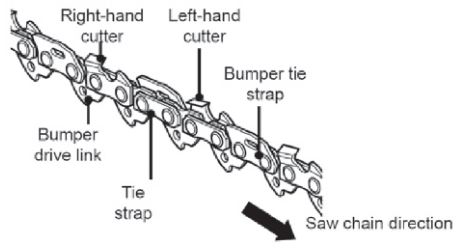

Fig. 23a
2). The height difference between the tooth and the ridge is the cutting depth. When sharpening the saw chain (D6) you have to consider the following points. (See Fig. 23a)